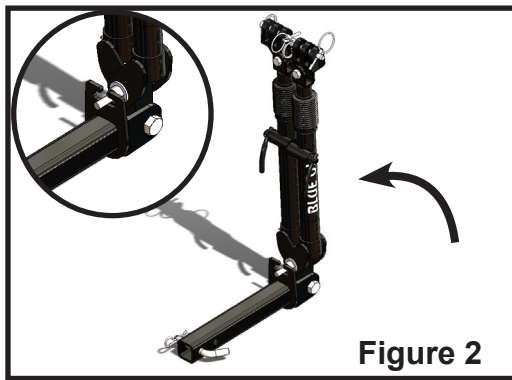

Figure 2
2. With legs together, swing them up towards the towing vehicle until the hold up bolt passes through the gap in the hitch connector (Figure 2).